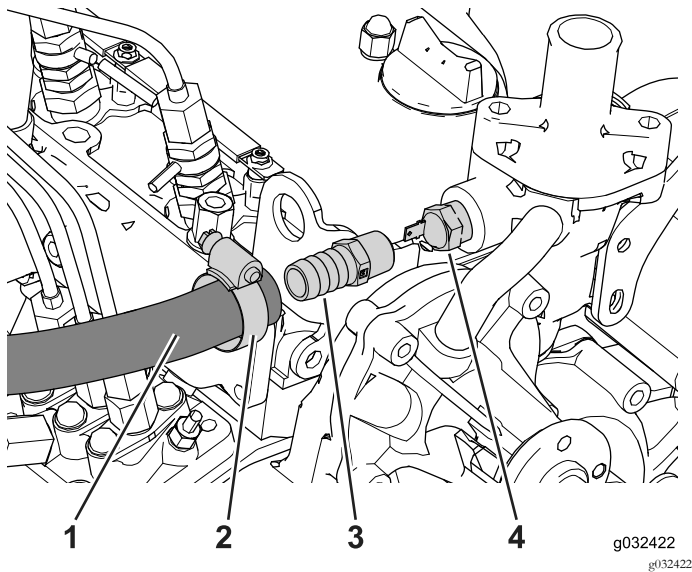

Figure 30
1. Locate, disconnect, and remove the temperature switch (Figure 30).
5. Slide the hose clamp over the hose end (Figure 30).
6. Insert the hose over the straight fitting and secure it with the hose clamp as shown in Figure 30.